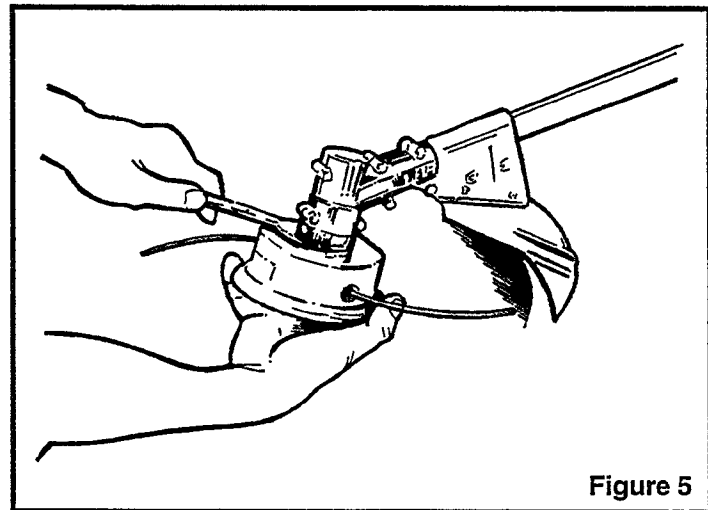

Figure 5
- While holding the lower flange washer with the large spanner wrench, thread the rotary head onto gearcase as shown in **Figure 5**. Tighten the rotary head as tight as possible by hand.